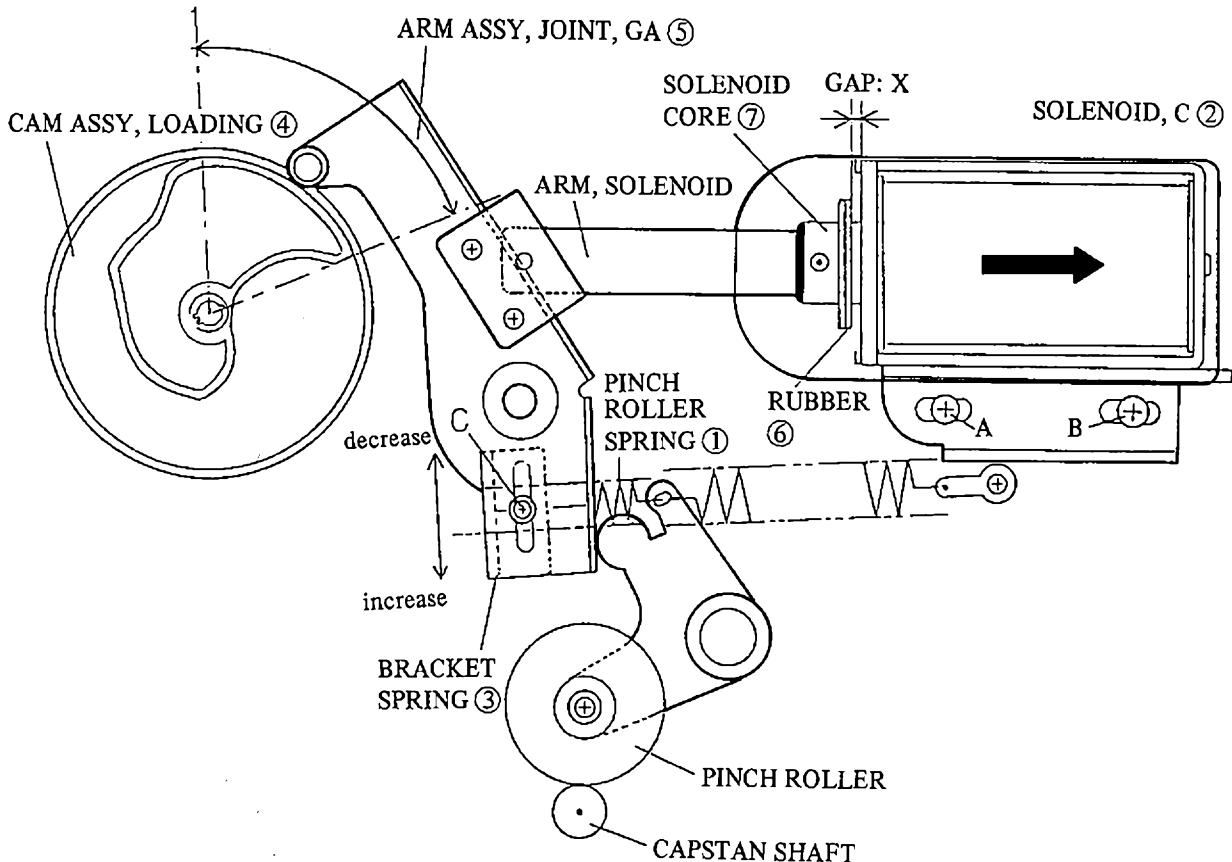

Fig. 4.4
- 6) If the reading is off specification, loosen the screw C and move the BRACKET, SPRING ③ in direction of arrow shown in Fig. 4.4.
- 7) Turn off the power of G24S and rotate the CAM ASSY, LOADING ④ by hand until the CAM ASSY, LOADING ④ and ARM ASSY, JOINT, GA ⑤ reach the point within the arrow marked area as shown in Fig. 4.4.
- 8) At this condition, adjust the position of SOLENOID, C ② so that there is no gap X produced between the RUBBER ⑥ and SOLENOID, C ②.